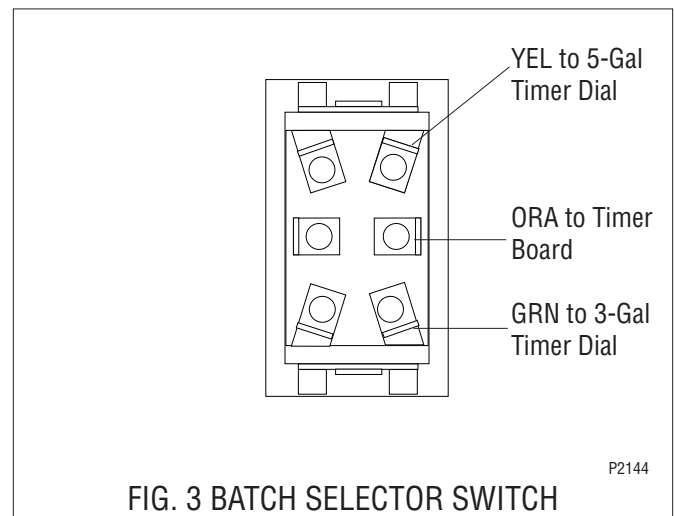

FIG. 3 BATCH SELECTOR SWITCH
4. Refer to Fig. 3 when reconnecting the wires.